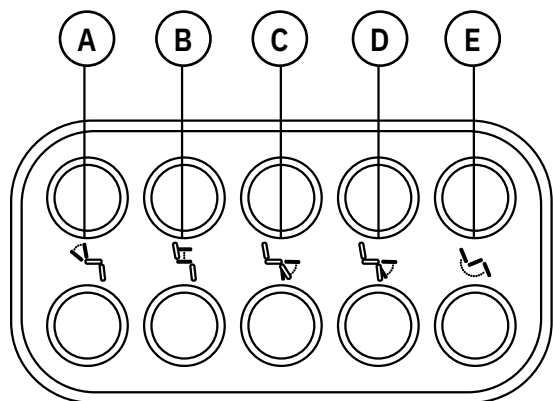

Figure 5.16. LiNX keypad.
The LiNX keypad can be used to adjust the electric backrest mechanism (A), electric height adjustment (B) a centre-mounted electric leg support (C), a length compensatory leg support (D) and electric seat tilt (E), see Figure 5.16. The LiNX keypad is located between the control unit and the armrest.